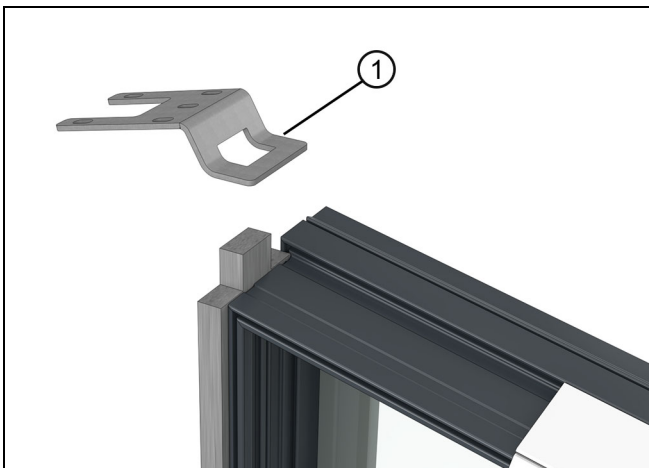
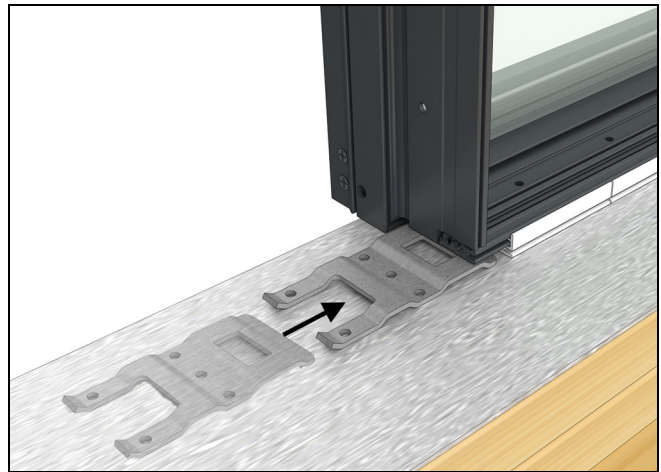

Figure 166 Interior view
Figure 168 Standard flat steel mull bracket at sill
1. Flat Steel Mulls: will use the polygon bracket at the head jamb and standard bracket at the sill. See Figure 166, Figure 167, and Figure 168.